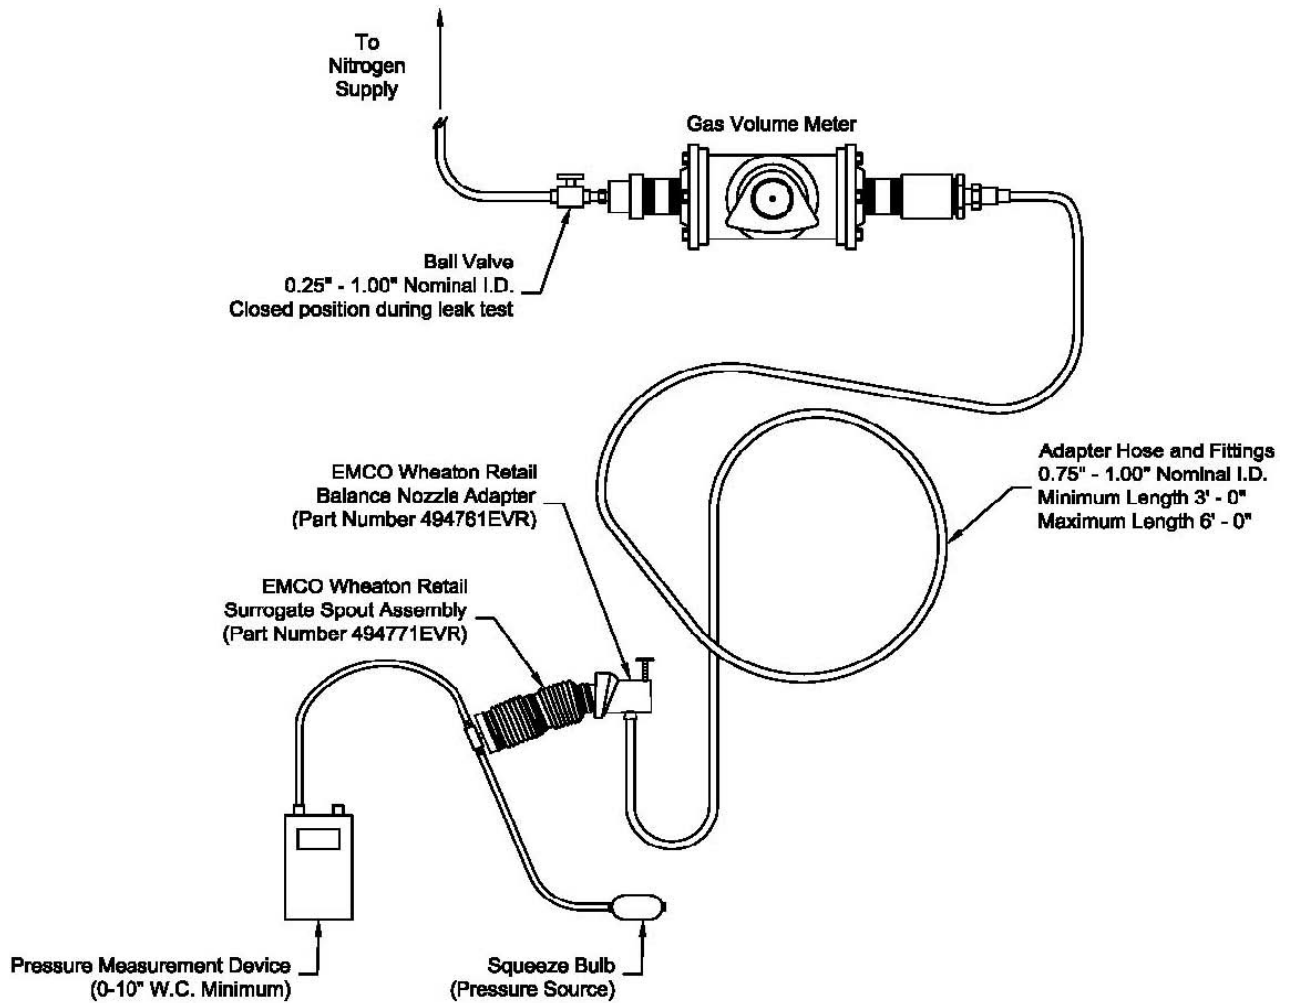

Figure 3
- 6.4 Assemble the equipment as shown in Figure 3 (VST) and Figure 4 (EMCO): INCON ISD System Vapor Flow Meter Test Assembly. Leave the Balance Nozzle Adapter off of the nozzle at this time. Do not enable the dispenser to dispense product. Remove nozzle and utilize any method to keep the nozzle hook in the off position.
- 7.6 Install the Balance Nozzle Adapter on the appropriate nozzle as shown in Figure 3 (VST) and Figure 4 (EMCO). Apply appropriate amount of lubricant to the O-rings located inside the Balance Nozzle Adapter. Lubricant can also be applied to the nozzle spout and the face seal or boot face (rubber boot) of the nozzle and the back of the Balance Nozzle Adapter if necessary.